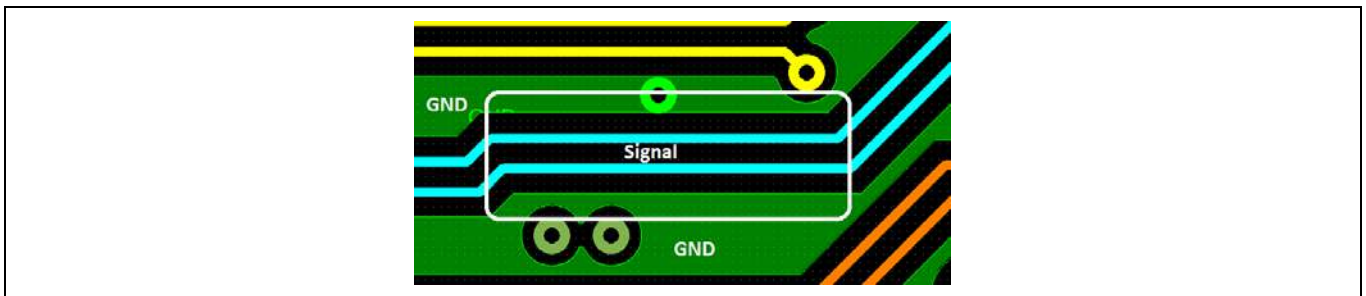

Figure 7-4 PWG Example
- Select a grounded coplanar waveguide (CPWG) system as a transmission line method, as shown in Figure 7-4.